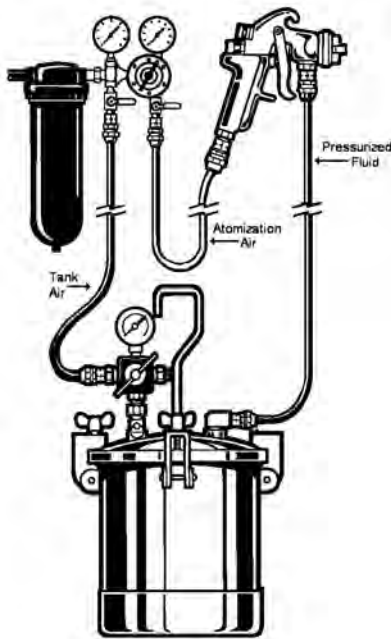

Figure 4 - Typical Pressure Feed Gun with remote tank
Figure 4 shows a material container some distance away from its pressure feed gun.
*Pressure Feed...* the material is fed by positive pressure as in Figure 4.